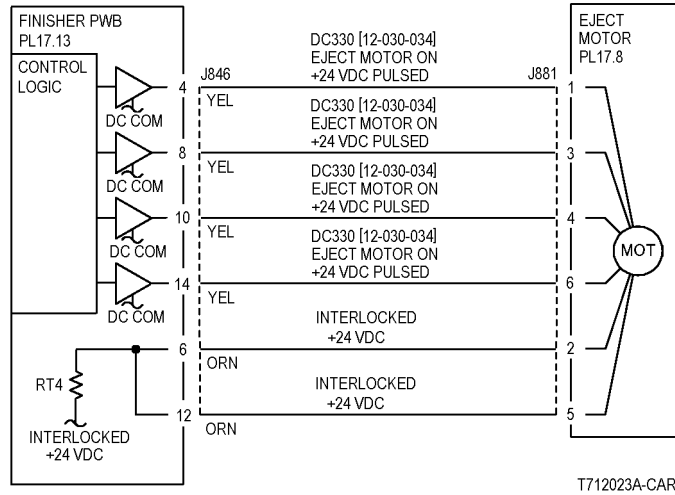

Figure 3 Eject Motor CD
- Ensure that the connectors shown in the circuit diagrams (Figure 2, Figure 3) are securely connected and that the wires are not damaged.